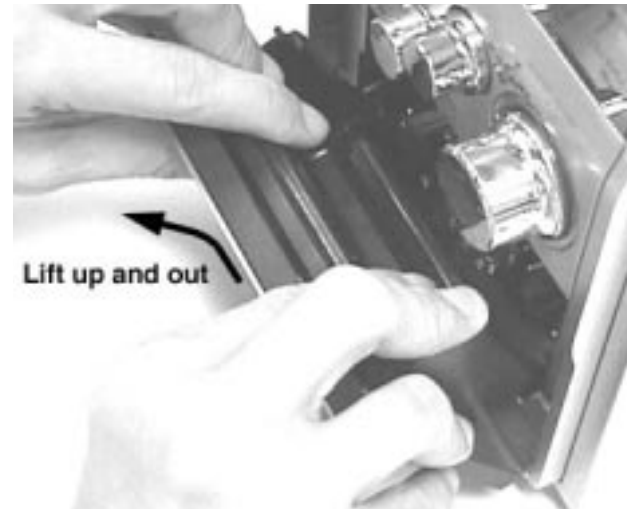

Figure 1
- 1) Remove the Cover Cassette (pos 150) in the direction as shown in Figure 1.
- 2) Loosen 4 screws to remove the Cover Top (pos 240) by sliding it out towards the rear before lifting up.
- 3) Loosen 2 screws each to remove the Panel Left (pos 180) and Panel Right (pos 181). The Panels are removed by sliding it towards the rear and outwards.